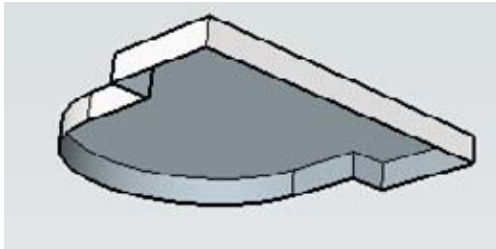

Figure 7-56
3. The window glass will align with the front face of the wall, not the back face. So orbit to the bottom of the window and erase the back face (Figure 7-56).